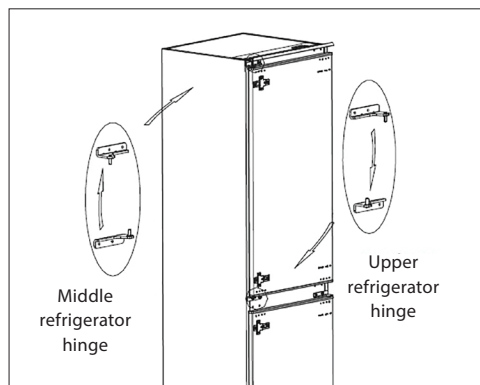

Fig. 5
3. Turn the upper refrigerator hinge by 180° and mount it to the opposite corner compared to the original position (to the middle part of the appliance) as shown in Fig. 5.
5. Turn the middle refrigerator hinge by 180° and mount it to the opposite corner compared to the original position (to the upper part of the appliance) as shown in Fig. 5.